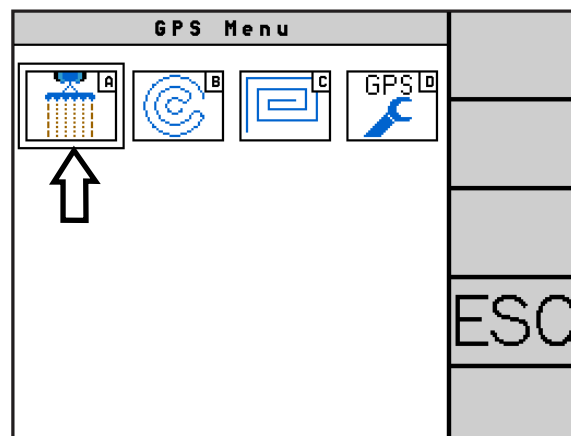

Fig. 150: Select “Straight track” mode
In the GPS menu, select “Straight track” (A) (see Fig. 150) to create straight tracks.